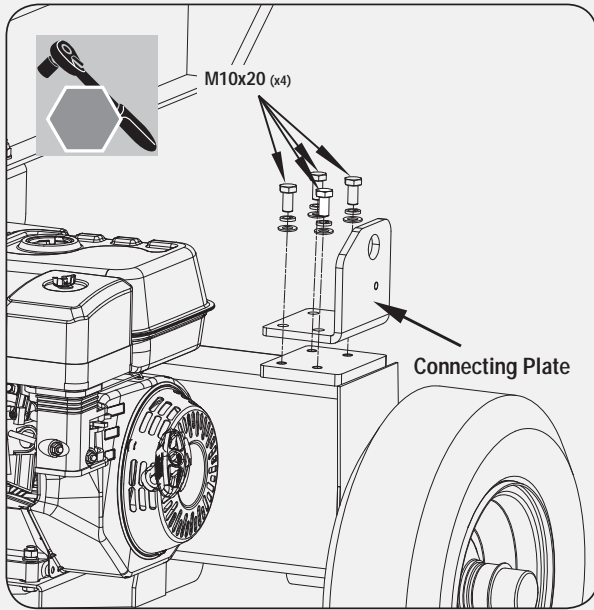

Figure 19
1. Assemble the connecting plate onto the tank, taking care to ensure the correct bending direction of the plate. (See *Figure 19*.)